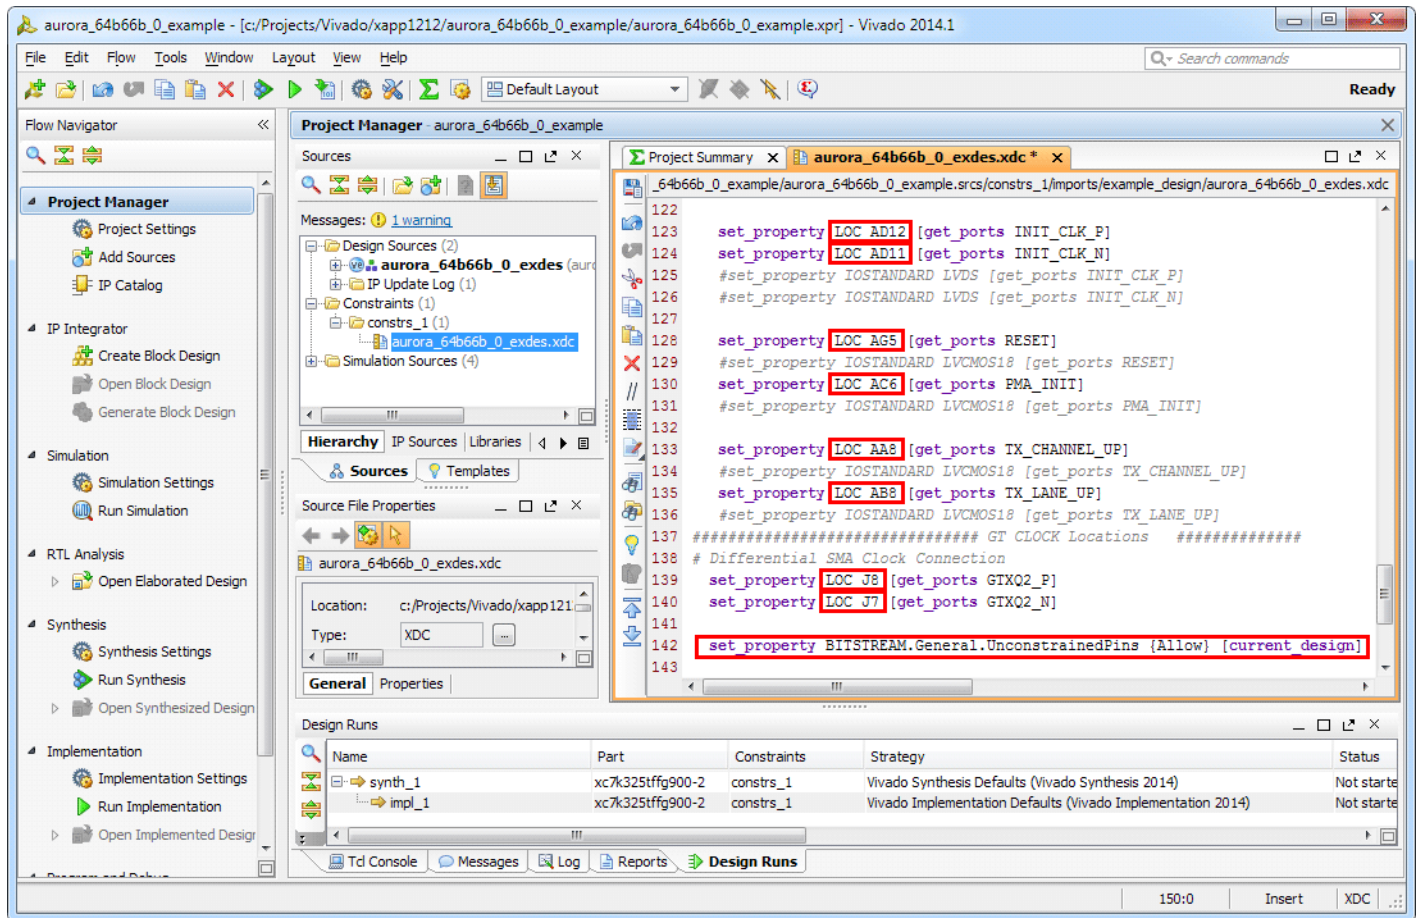

Figure 12: Aurora 64B/66B Simplex LOC Constraints
6. Assign the pin locations for the Aurora core ports to those shown in Table 1 (see Figure 12).
- This example contains unconstrained pins. To permit bitsream file generation, add this line to the end of the constraints file (Figure 12):